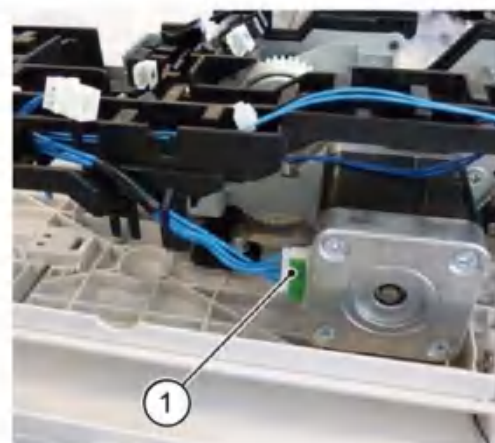

Figure 5 DADF feed motor assembly connector
8. Disconnect the DADF feed motor assembly connector (1), **Figure 5**.